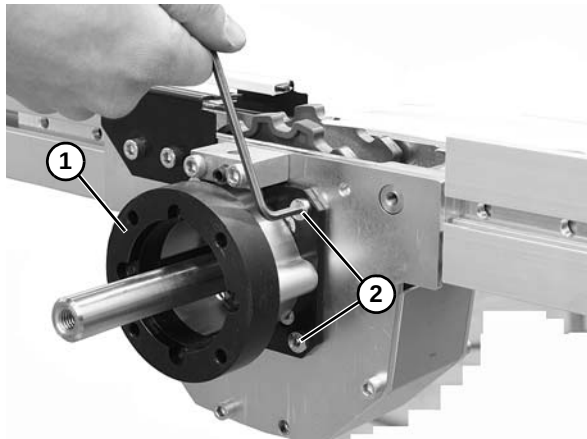

Figure 30
6. Install drive motor mounting plate (**Figure 30, item 1**) using four hex head cap screws (**Figure 30, item 2**).